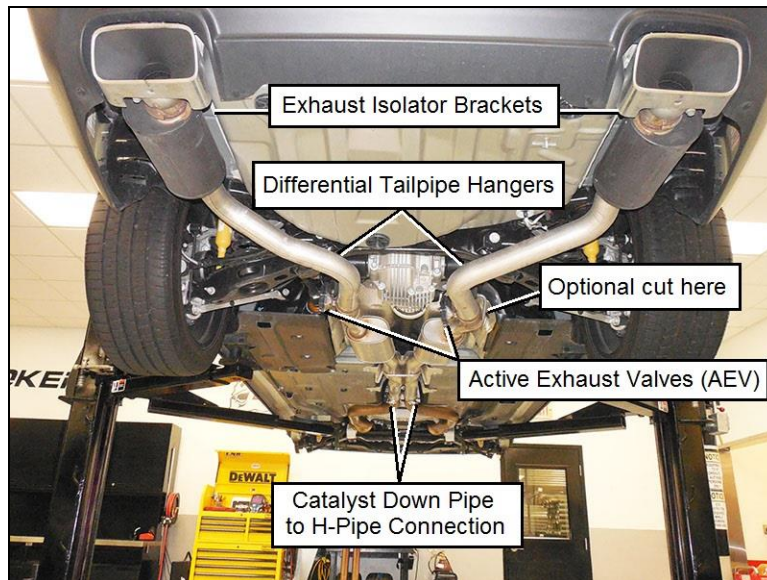

Figure 1
2. Support the left and right muffler assembly. Remove the bolts at the isolator brackets on the left and right tailpipes. Remove the bolts at the isolator brackets on the left and right differential hangers (**Figure 1**).
3. Loosen the clamps on the H-Pipe where it connects to the catalytic converter down pipes and spray the connection with WD-40® (**Figure 1**).
NOTE: Cutting the tailpipes at the resonator will make removal much less difficult, but is not necessary (**Figure 1**).